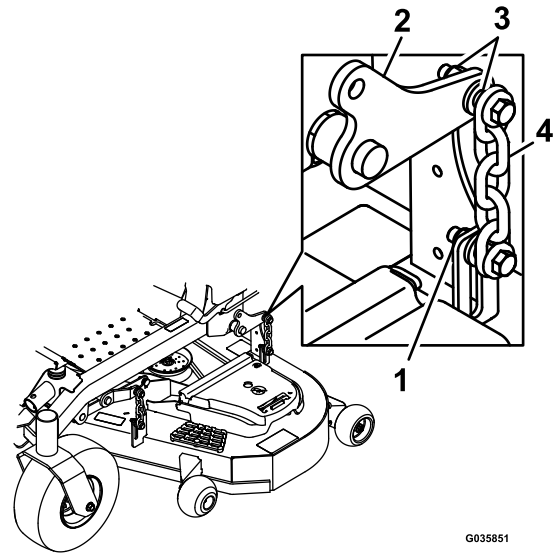

Figure 76
13. Loosen the locknuts (Figure 76) on all 4 corners and ensure that the mower deck is sitting securely on all 4 blocks.